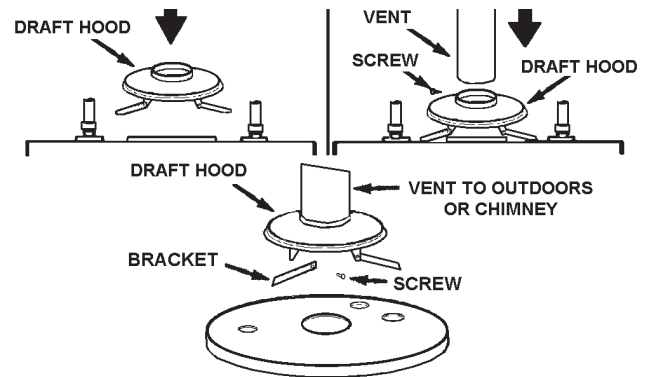

FIGURE 17.
- Place the vent pipe over the draft hood. With vent pipe in position, drill a small hole through both the vent pipe and draft hood. Secure them together with a sheet metal screw, see Figure 17.